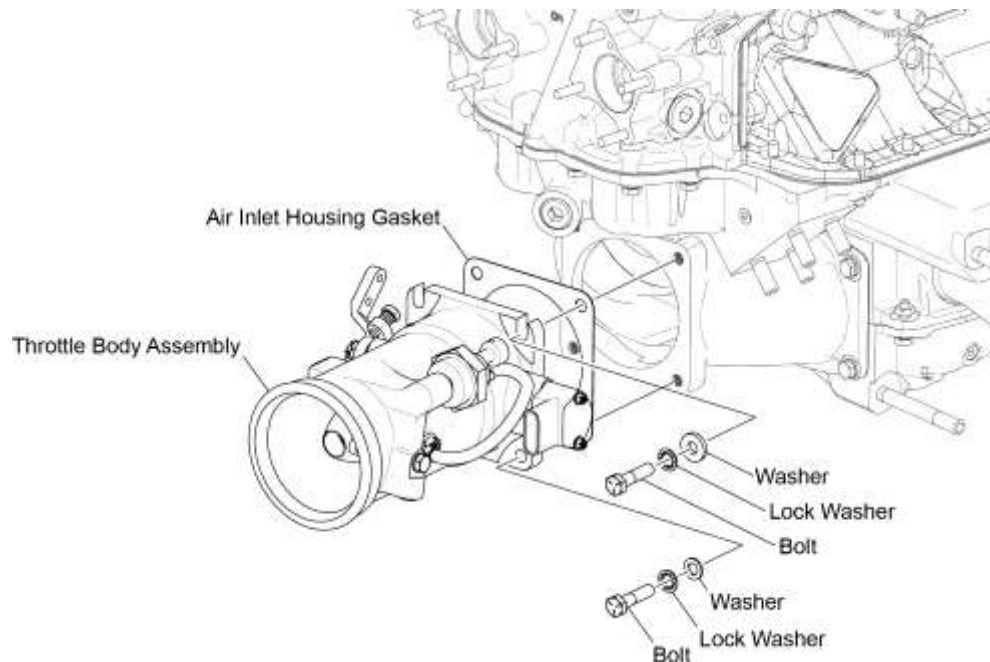

Figure 1
- (1) Disconnect the battery.
- (2) Remove the harness connections from the Throttle Position Sensor (Figure 1) and Delta Pressure Sensor.
- (3) Remove the throttle cable from throttle input lever.
- (4) Remove the T-bolt clamps and hose that connect the throttle body assembly to the air inlet box.
- (5) Remove the two bolts, washers, and lock washers, from the top aft end of the throttle body. Refer to Figure 1. Discard the lock washers.
- (6) Loosen the two bolts, washers, and lock washers, from the top forward end (closest to the engine) of the throttle body. Refer to Figure 1. Discard the lock washers.
- (7) Loosen the two bolts, thick washers, and lock washers, from the bottom aft end of the throttle body. Refer to Figure 1.
- (8) Loosen the two bolts, thick washers, and lock washers from the bottom forward end (closest to the engine) of the throttle body. Refer to Figure 1.
- (9) Lift the throttle body up far enough for the bolt slots to clear the bolts loosened in the previous two steps.
- (10) Remove the throttle body and the bolts, thick washers, and lock washers loosened in the earlier steps. Discard the lock washers.
- (11) Label the location of the two gaskets (Figure 1) for reference. Remove and discard the two gaskets, one from each end of the throttle body.